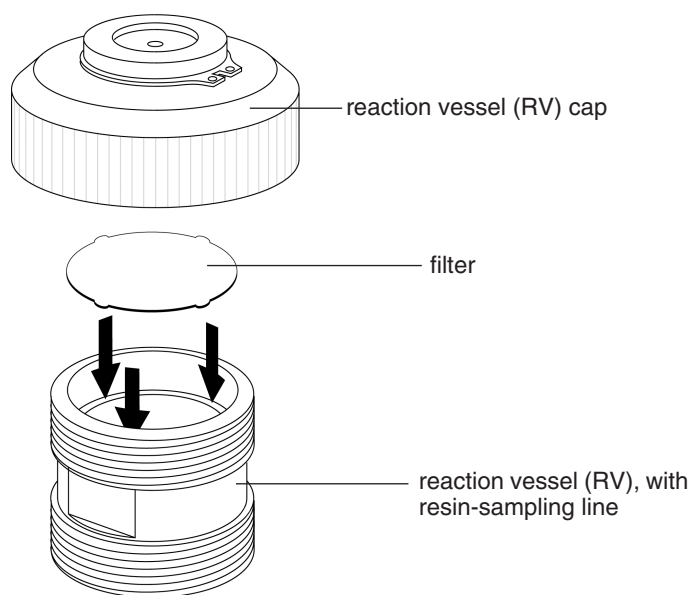

Figure 2-8. Placing RV filter on inner knife edge of reaction vessel
2. Hold the RV in a vertical position and place an RV filter on the protruding “knife-edge” found just inside the openings at either end of the RV (see Figure 2-8). The filter forms a seal with the knife edge when the RV cap is screwed in place.